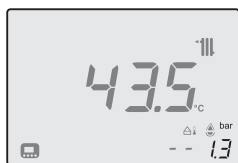

Fig. 2.2
Ensure that the c.h. circuit is regularly filled with water (even if the boiler is only used for d.h.w. supply) checking that the pressure indicated on the bottom part of the display Fig. 2.2.
In the case of incorrect pressure the value is visualised with a  flashing symbol (Fig. 2.2).
- Open the valves of the filling loop and watch the display until it reaches normal filling pressure as shown in Fig. 2.2.